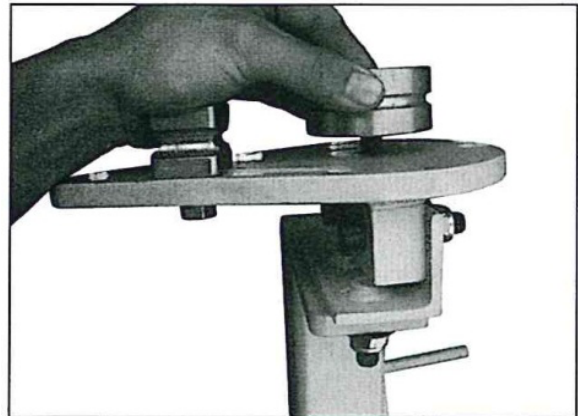

Figure 5-4
3. As seen in fig 5-4, remove the counter-sunk bolt from the center threaded hole in the base plate. Attach the die in which you want to be the "former die", or the die in which will eventually match your bent part. Place the recessed hole "up" and tighten to the base plate.